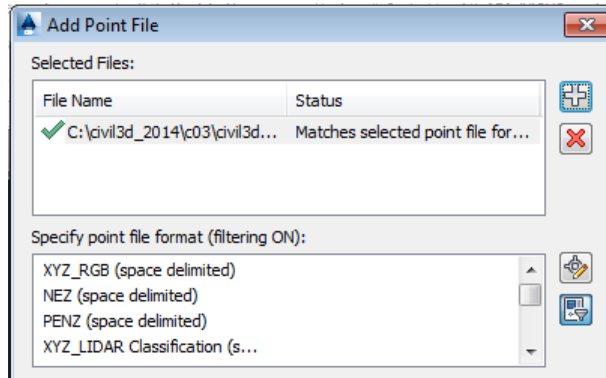

Figure 3-55 Partial view of the **Add Point File** dialog box
3. Choose **Add** from the shortcut menu; the **Add Point File** dialog box is displayed, as shown in Figure 3-55.
6. Browse to the folder *c03* and select *civil3d_2014_c03_tut01- PENZD* text file and choose the **Open** button; the file name and path is displayed in the **Selected Files** list box, refer to Figure 3-55.